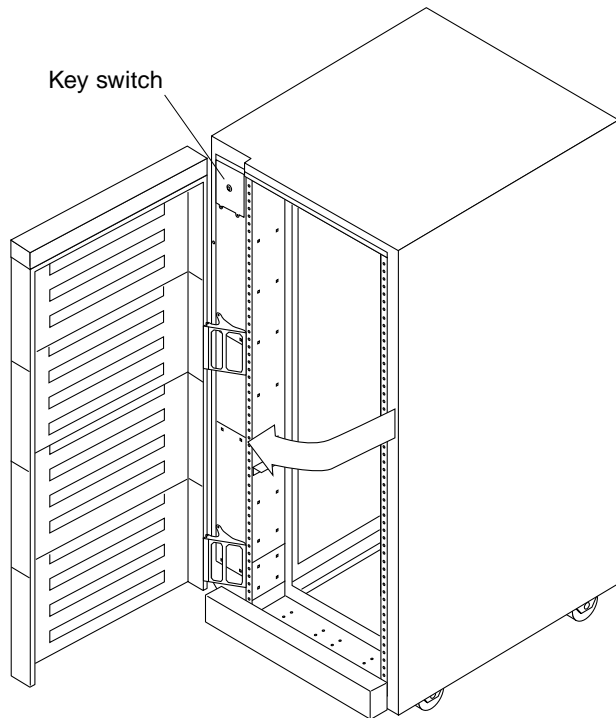

FIGURE 2-1 Location of the Key Switch
1. **Open the front door and verify that the key switch (FIGURE 2-1) is in the Standby position.**